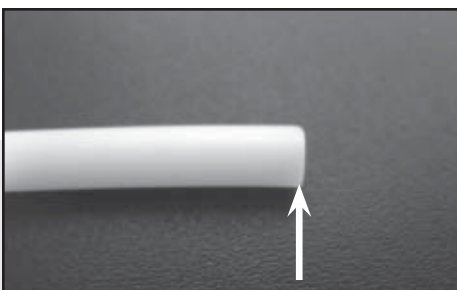

Fig. 1 (Correct)
7. The water dispenser includes 8 meters (26 feet) of ¼” OD flexible water line. If additional water line is needed, it can be purchased at your local hardware store. Cut the desired length to suit your installation requirements, making sure both ends of the water line are cut straight/square (See Fig. 1 & Fig. 2). Remove the compression nut and compression ring from the valve and install on the water line (See Fig. 3).